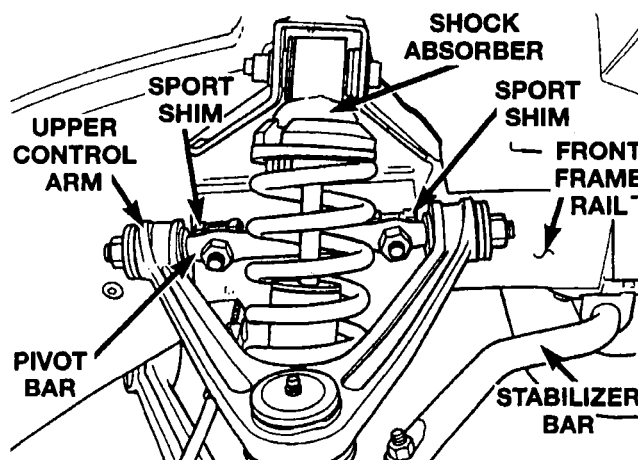

Figure 49 – Right Side Shown
- j. Verify that the front suspension upper control arm sport shims have not been removed (Figure 49). Correct camber angles can not be set if the sport shims have been removed.